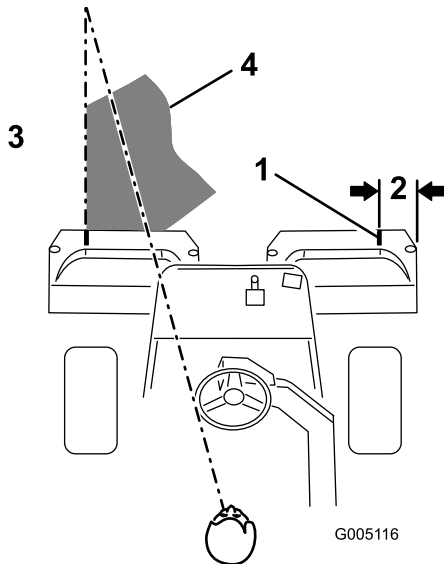

Figure 25
**Note:** To assist in maintaining a straight line across the green and keeping the machine an equal distance from the edge of the previous cut, imagine a sight line approximately 1.8 to 3 m (6 to 10 ft) ahead of the machine to the edge of the uncut portion of the green (Figure 25). Include the outer edge of the steering wheel as part of the sight line; i.e., keep the steering wheel edge aligned with a point that is always kept the same distance away from the front of the machine.